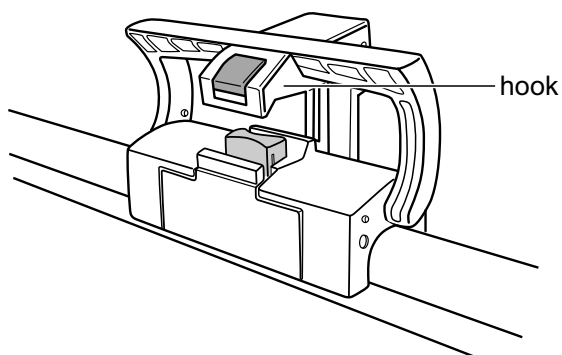

Figure 4
6. Anchor the lifting handle on the upright hook. Make sure that the notch of the handle is firmly on the hook until it clicks (Figure 4).